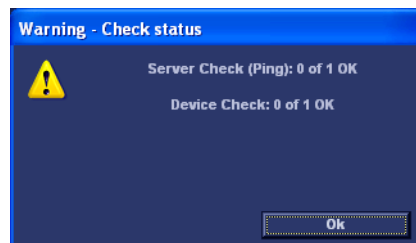

Figure 3-86 Both Tests Failed
- If the Check button fails after a long time (corresponding to the timeout), the Warning will look like the example in Figure 3-86, where both tests failed.